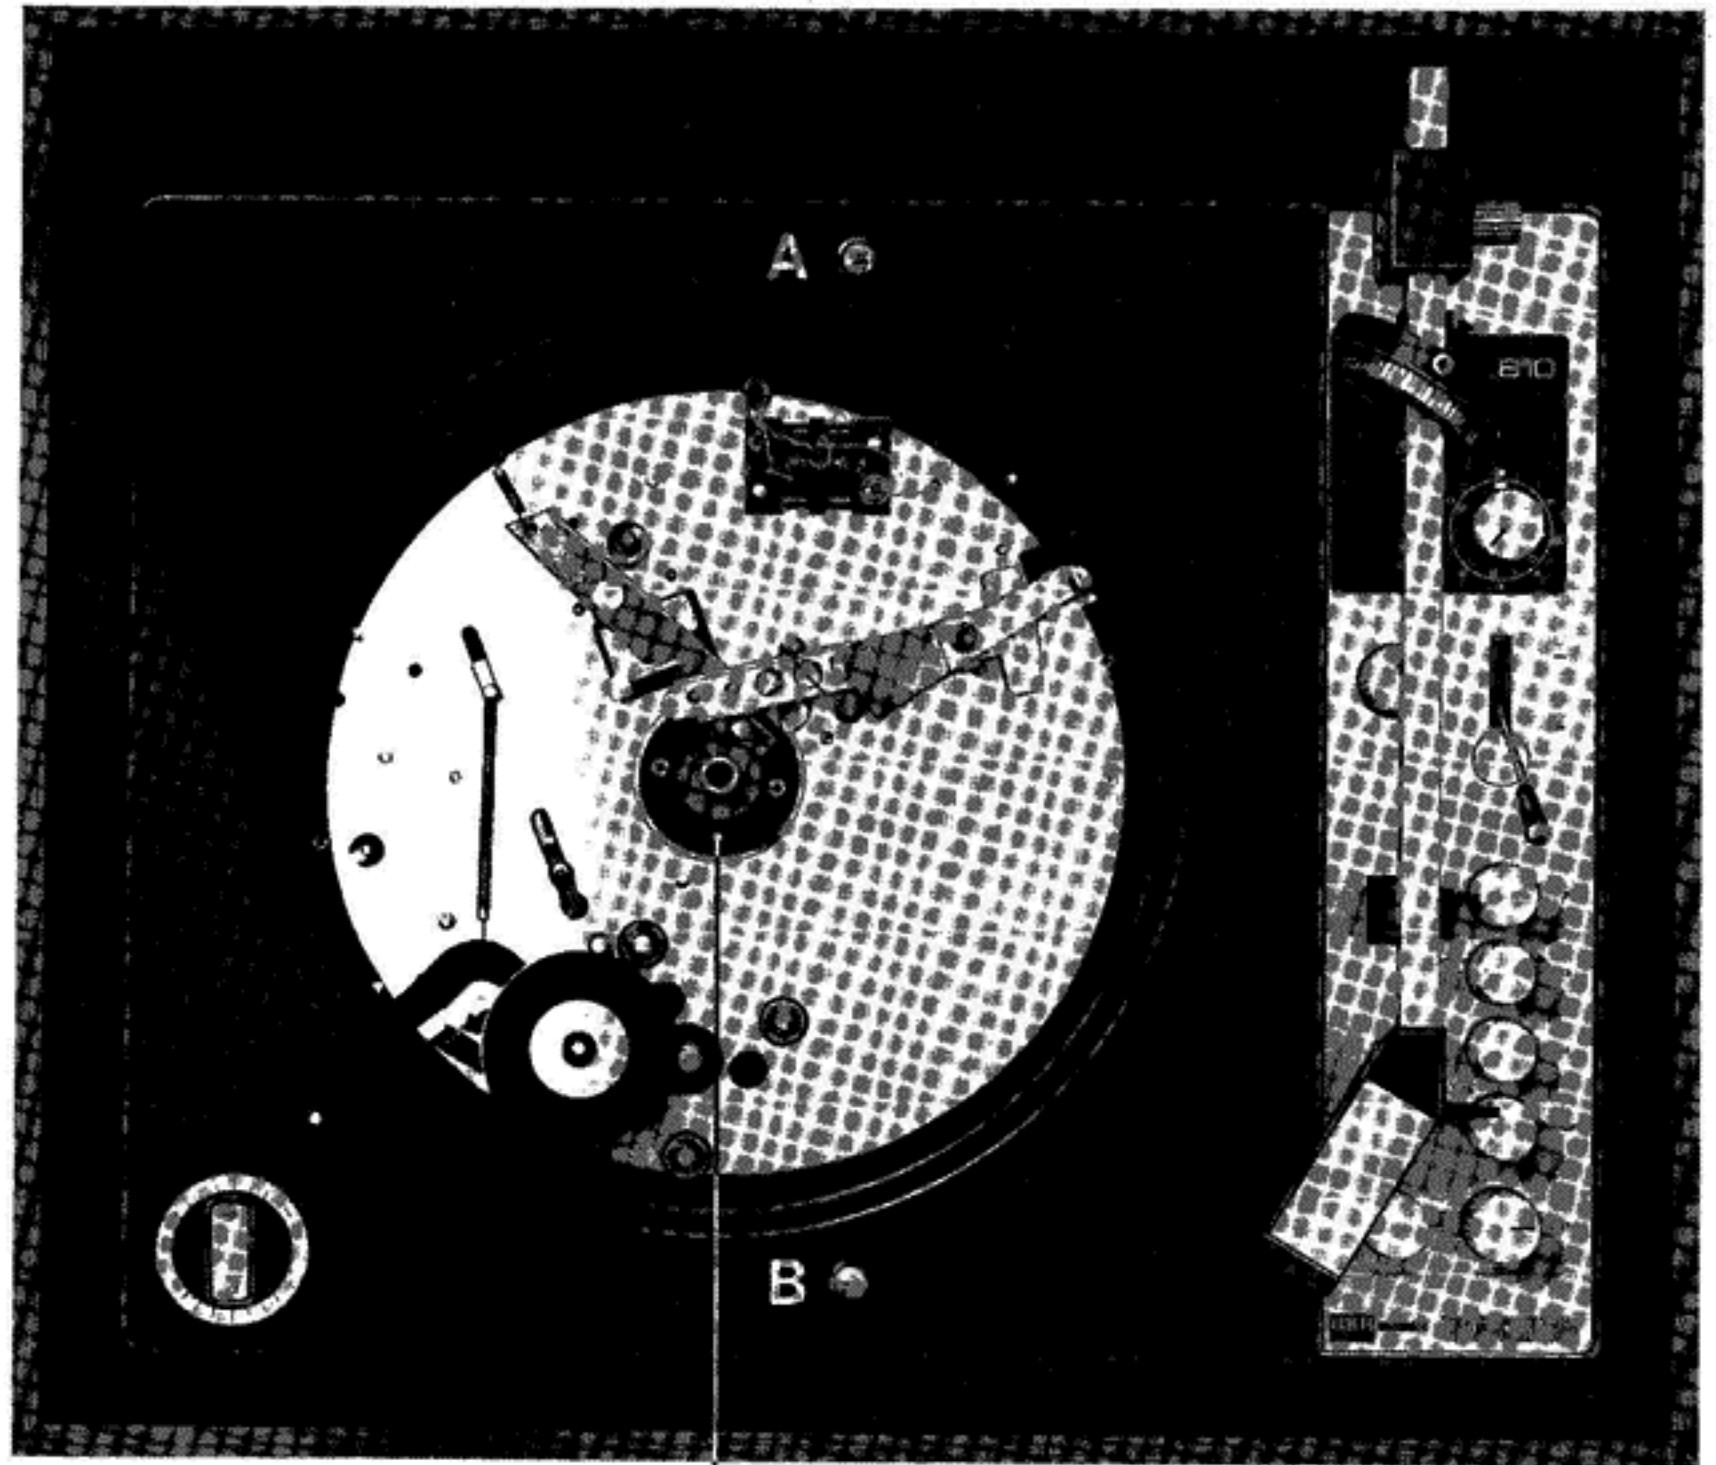

Fig. 2
- 5 Two holes are provided in the unit plate, one at the front and one at the rear of the turntable well (Fig. 2, A and B). These come directly above the two pilot holes drilled in the motor board. If it is necessary to ship or transport your unit after installation, secure it to the motor board with the two round head wood screws and fiber washers supplied.
- Remove Transit Screws and Washers (Fig. 2, A and B) if fitted and retain for future use.